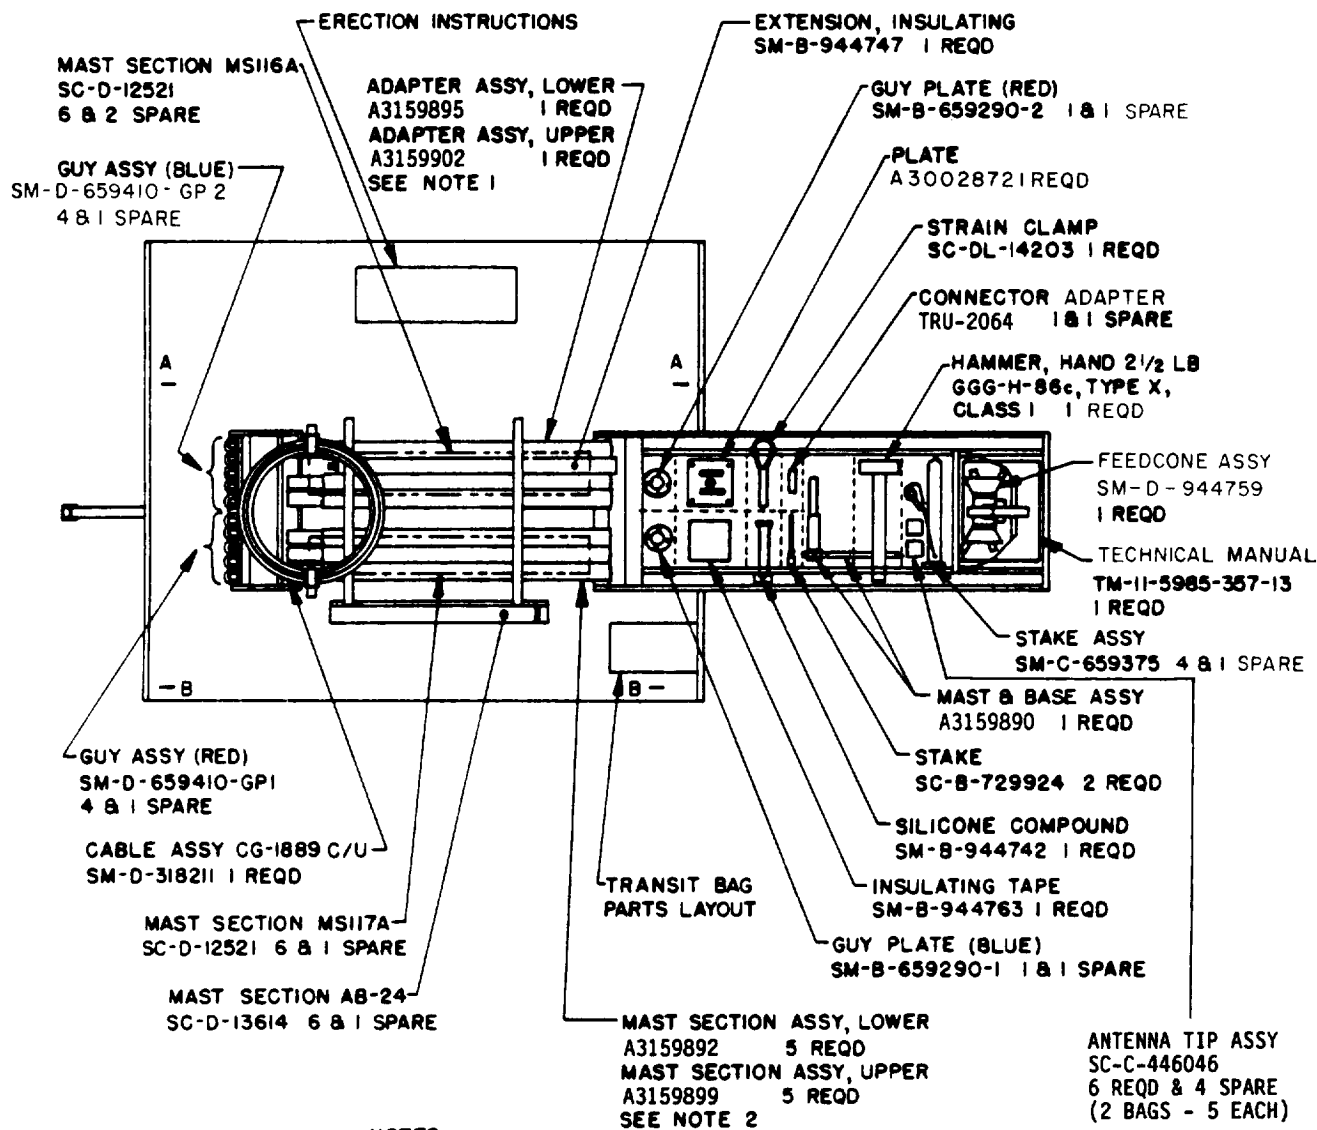

Figure 2-21.1 Transit bag with parts installed,
a. Secure items in the roll bag as shown in figure 2-21 or 2-21.1. Fold the stake portion of of mast and base assembly of the AB-1244/GRC (fig. 2-21.1) to a 90 degree angle in order to fit within the transit bag.